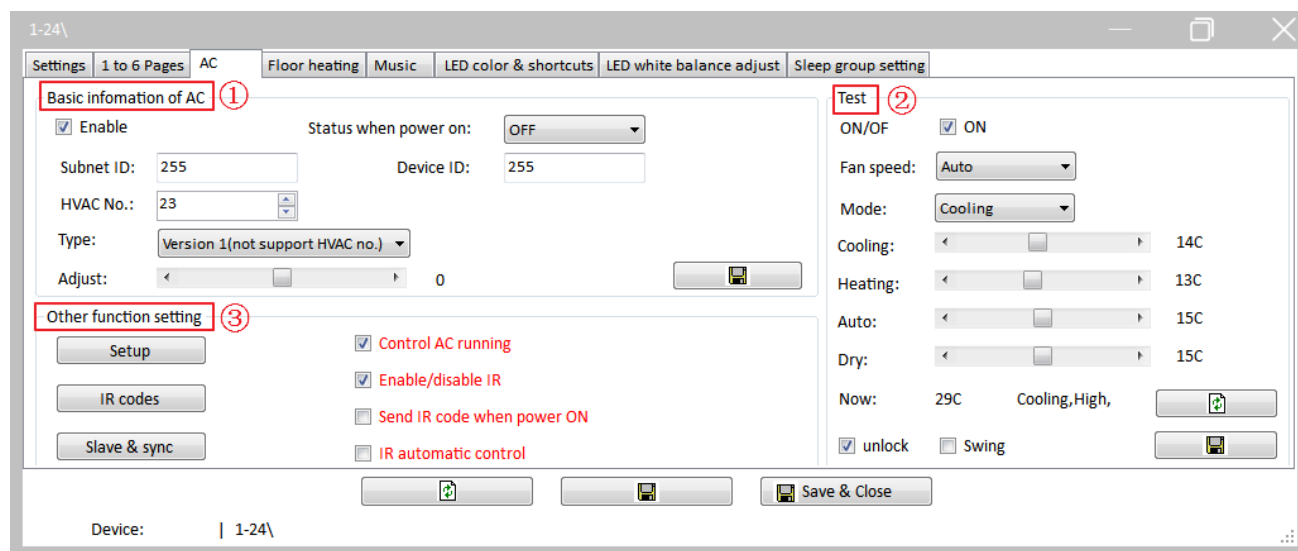

Figure 4-1 AC setting
Select “AC” label in the panel configuration page, as shown in Figure 4-1.
Select “Enable” at the top of AC setting part (Mark ① of Figure 4-1) to enable AC.
Set AC ON/OFF, fan speed, mode (cooling, heating, auto and dry), unlock and swing (Mark ② of Figure 4-1).
In other function setting part (Mark ③ of Figure 4-1), user may configure AC setting, IR codes and Slave & sync.